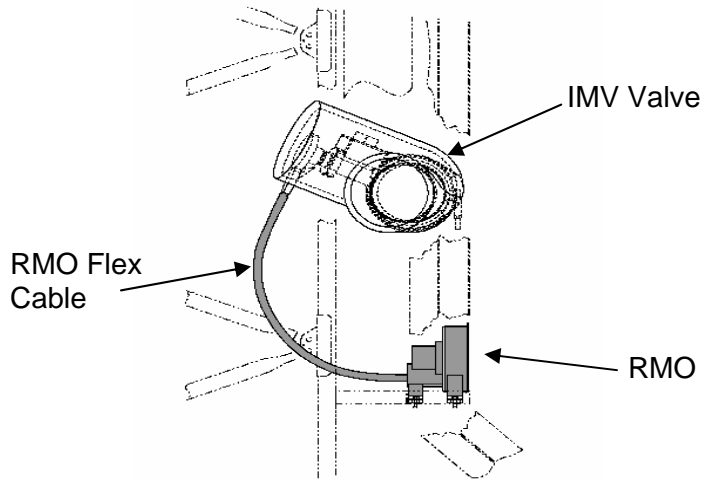

Figure 12. Aft Stbd IMV Valve with RMO Installed.
Refer to Figure 12.
- 6.13 Install RMO flex cable. Verify acceptable bend radius, Fasteners (two) (Driver Handle, 1/4" Drive; 4" Ext, 1/4" Drive; 5/32" Hex Head, 1/4" Drive). Refer to Figure 12.